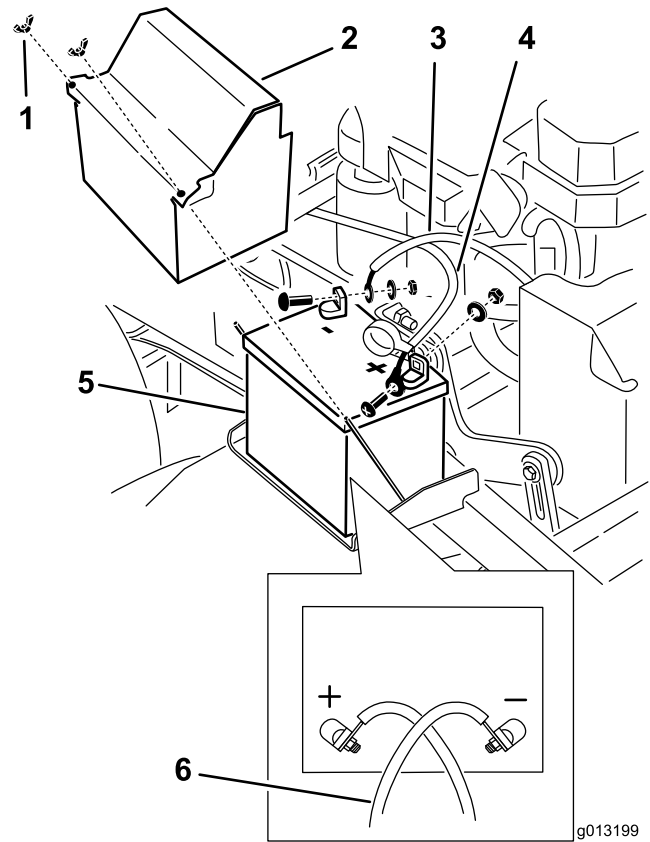

Figure 52
3. Disconnect the negative battery cable from the negative (-) battery terminal (Figure 52).
5. Remove the positive (red) battery cable (Figure 52).
6. Remove the battery hold-down plate and remove the battery (Figure 52).
1. Place the battery onto the machine (Figure 52).
3. Install the positive (red) battery cable to positive (+) battery terminal with a nut, a washer, and a bolt (Figure 52).
5. Install the negative battery cable and ground wire to the negative (-) battery terminal with a nut, a washer, and a bolt (Figure 52).
**Note:** The battery cables cross over each other when they are correctly installed (Figure 52).